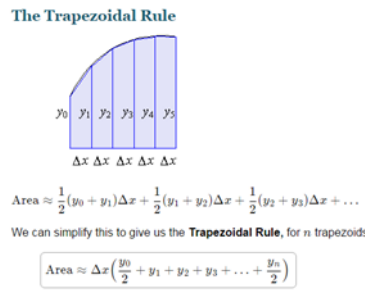

Figure 83 Trapezoidal Rule
- ii Evaluate total area below 0 volt by using Trapezoidal Method Area Calculation (refer to Figure 83)